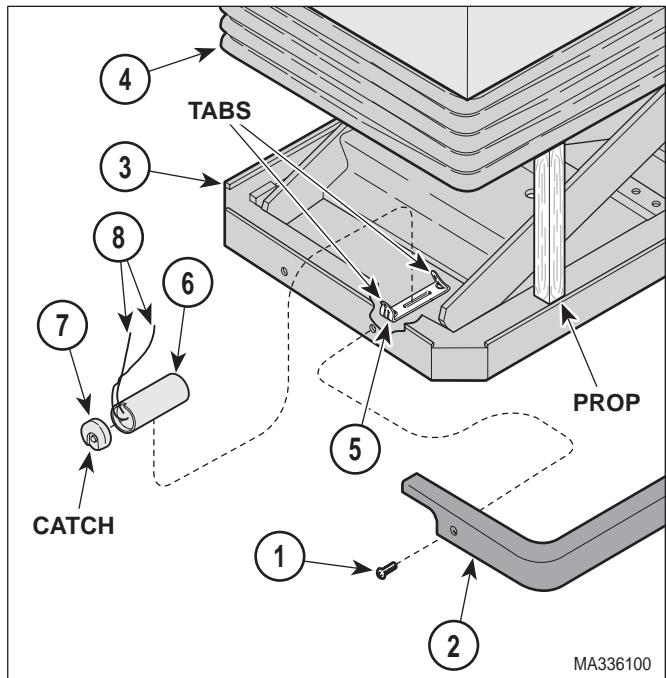

Figure 4-8. Base Capacitor Removal / Installation
- c. Remove four screws (2) and cover plate (3) from upper base weldment (4) to gain access to base capacitor.
- (4) Remove four screws (1, Figure 4-8) and two bellows retainer trim (2) from lower base weldment (3).
- (5) Raise bellows (4) and support in the up position with a prop.